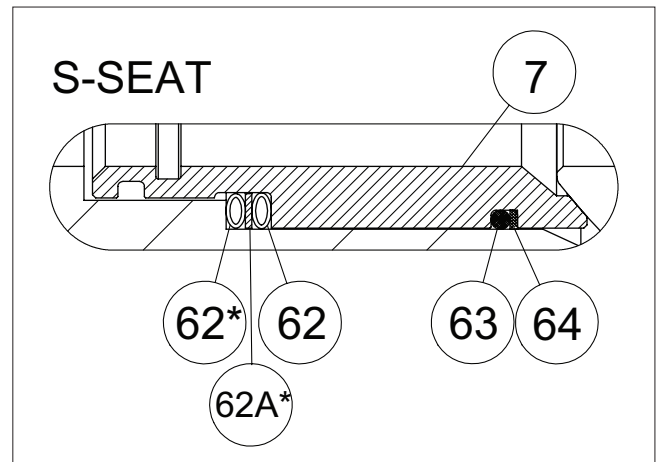

Fig. 11 S seat
- Place the back seal (O-ring) (63) into the groove in the seat. See Figure 11.
- Place the back-up rings (64) made of PTFE strips at the side of the O-ring. To ensure that the seam becomes flexible, the strip must have slanted ends.
- Place the spring (62) into the groove in the seat (7). NPS06 has 2 pcs spring (62) separated with spacer ring (62A\*).
- With the ball (3) in the "closed" position, and trunnion plate pins (89A) installed to holes in body (1), lower the ball/trunnion plate subassembly into the body (1). **NOTE:** This procedure is critical and careful attention is a must. The outside diameter of the trunnion plates must pilot in the body counterbore and the pins need to align with the holes in trunnion plate. Carefully lower the subassembly until a trunnion plate enters the counterbore and pins go inside the trunnion plate. (Usually one trunnion plate will enter the counterbore and the other will be out of position.) Use a plastic mallet or a block of wood to rotate the second trunnion into position. Once trunnion plates are aligned, lower the subassembly until the trunnion plates are seated in the bottom of the counterbore.
- Slide the thrust bearings (70 and 71) over the shaft (5). See the exploded view for proper orientation.
- Insert shaft subassembly through the shaft bore of the body (1). Note the correct shaft position!
- Install the bonnet gasket (66) and then bonnet (8) over the shaft and the bonnet studs (10) .
- Lubricate the threads of studs (13) and tighten the nuts (17) according to values in Table 2.
- Install the packing (69). Refer to Fig. 11 for proper orientation of packing
- Install the gland (9) over shaft (5) and gland studs. Install the disc springs sets (150) and the gland stud nuts (18) on studs and tighten "finger tight."
- Install the body gasket (65) in the body groove.
- Place the body cap (2) carefully over the body studs (12) and the body (1). See that the flange holes are aligned acc. to the mark made during the dismatling. Take care not to damage the body gasket and the seat (7) in the body cap.
- Check that trunnion pins (89A) align with the holes in body cap (2).
- Fasten the body nuts (16). Tighten the nuts gradually, always switching to other side of the valve after every nut. The recommended torques is given in Table 3. The flange faces must in even contact with each other.
- Mount the key (10).